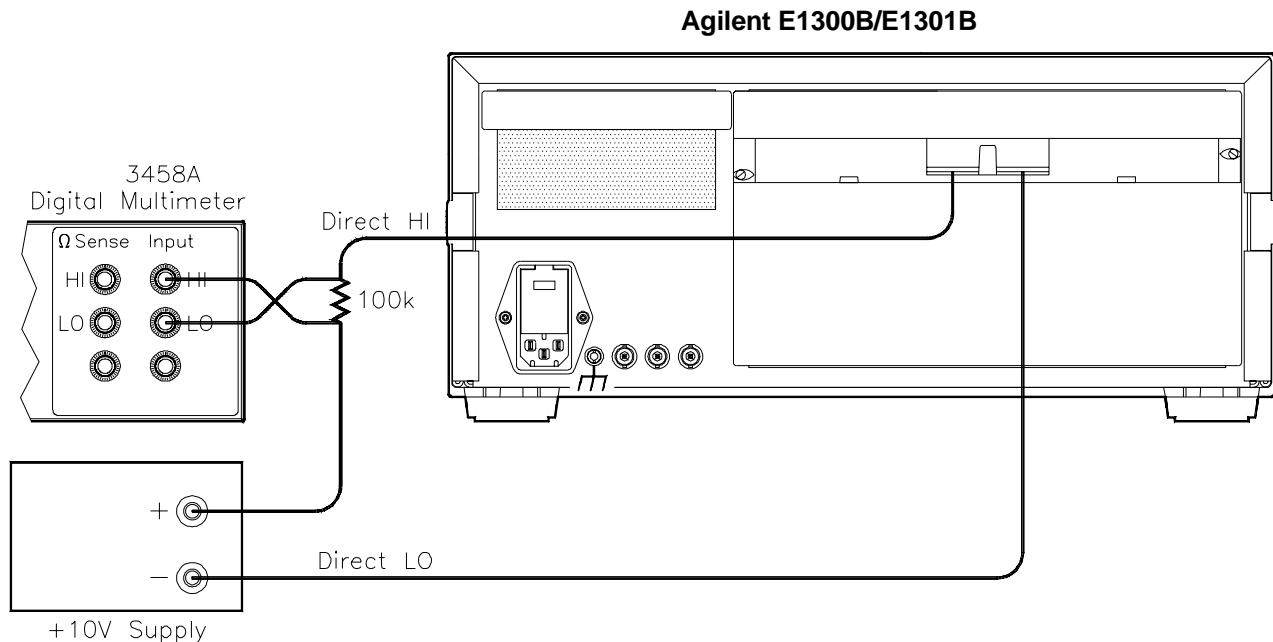

Figure 2-6. Positive HI to LO Leakage Connections
- Connect DMM, power supply, and resistor as shown in Figure 2-6